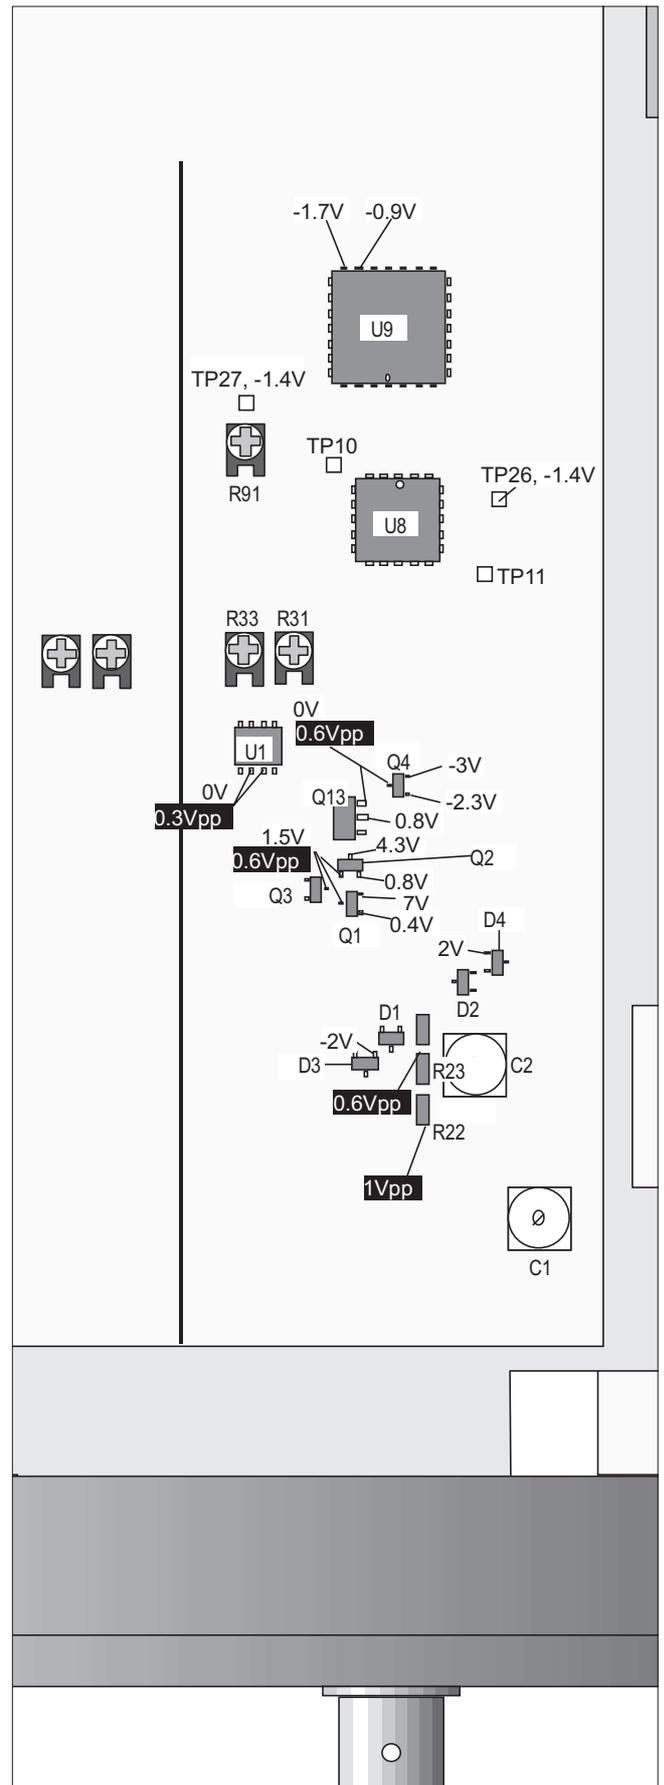

Fig. 5-5 Typical voltages, input amplifier.
- Measure the DC voltages according to Fig. 5-5. Use the DMM with a 10 k Ω resistor in series with the test cable.
- Measure the AC-levels according to Fig. 5-5. Use the oscilloscope and a 10 M Ω probe.